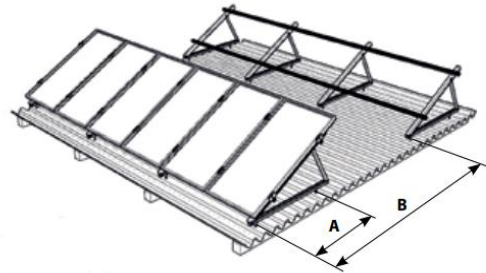

Fig 4.1.2A: Screw fixing and shading distances
- I. The A-Frames positioning depends on the installation plan. The variables **A** and **B** as per Fig 4.1.2A needs to be determined at site prior to securing the A-Frames to the roof purlins.
- II. The measurement **A**, can be either determined by the roofing sheet ribs/crests spacing when rails run perpendicular to purlins or via the purlin spacing when rails are run parallel to purlins, as shown in Fig 4.1.2A.